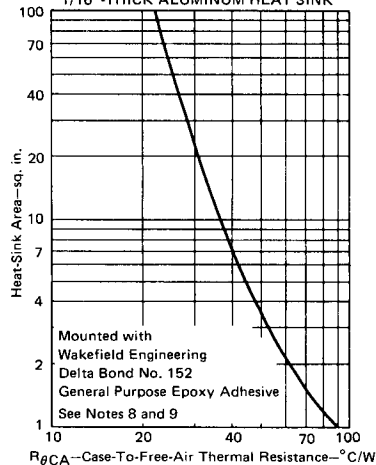

FIGURE 4
3. Determine area of heat sink from Figure 4.
Figure 4 shows that for $R_{\theta CA}$ of 32°C/W, the area is 18 sq. in. The minimum dimensions of the sides should be: